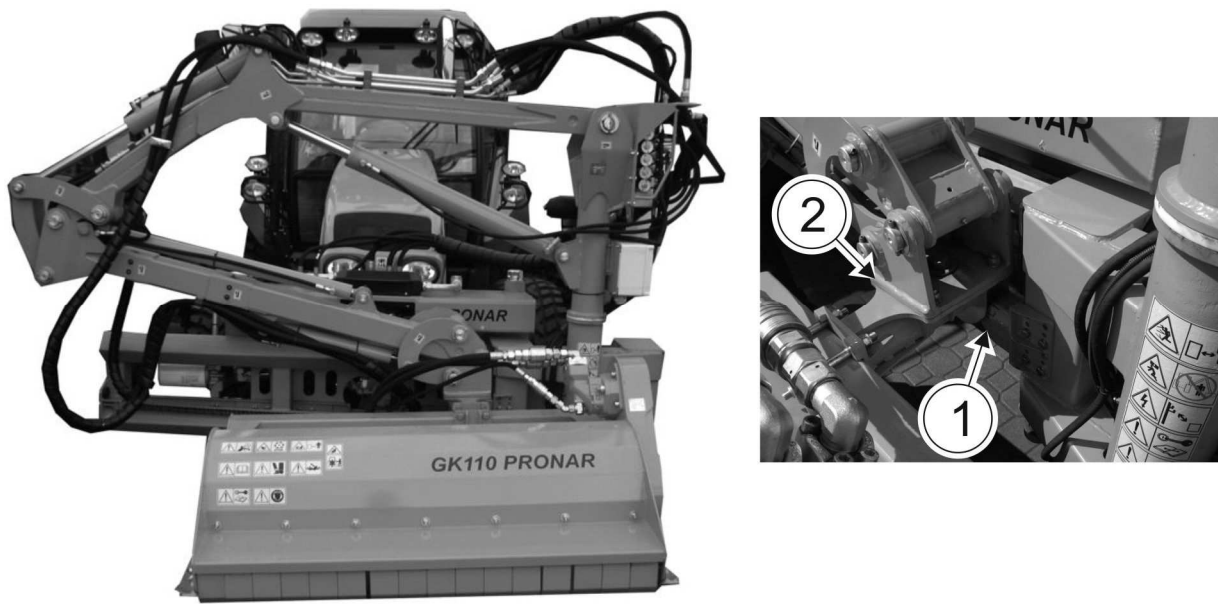

FIG. 4.3 **Transport position**
For transport to place of work and back, raise the cutting head and mount it on hitch (2) of multifunction arm head (1) (FIGURE 4.3).